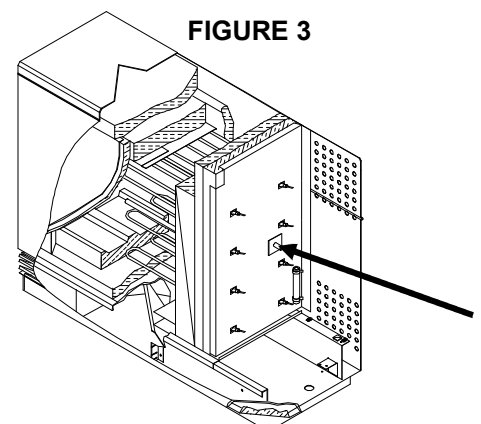

FIGURE 3
4. Locate where the brick core sensor enters the brick core (Figure 3) and remove the screw holding it in place.